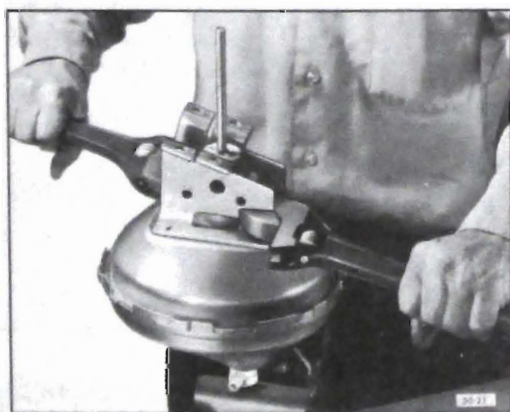

Figure 50-79 Separating Power Brake Unit-43-44000
2. Remove boot and place two adjustable wrenches at least 10" in length, so that each wrench will grip on a mounting bracket (43-44000) or attach wrench J-9504 to studs (45-46-48-49000). Rotate rear housing counterclockwise to unlocked position. See Figure 50-79 or 80.
16. Press down and rotate support plate clockwise, until lugs on power piston come against stops on support plate. See Figure 50-79.